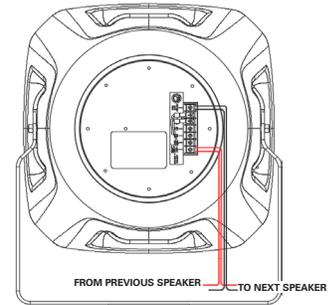

Figure 6
- Continue wiring one speaker to the next until they are all connected. Figure 6